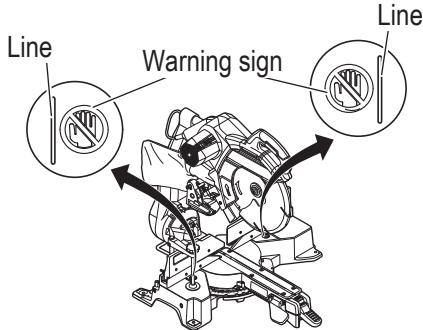

Fig. 18
- Never place your limbs inside of the line next to warning sign while the tool is being operated (see Fig. 18). This may cause hazardous conditions.